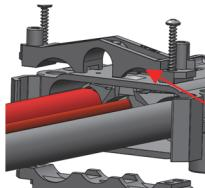

Figure 10
- Hold the two clamps tight to the cable while tightening the screws. Auxiliary wires will pass through "U" and are not be grabbed by the clamp. Tighten per table below. (Figure 10)